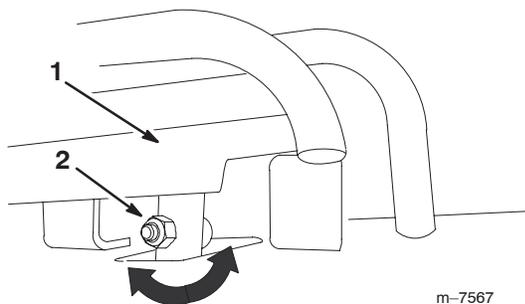

Figure 34
4. If the front of the traction control does not rest square and flush with the reference bar, loosen the flange nut and bolt in the stem of the traction control (Fig. 34).
5. Adjust the traction control so that it rest flush against the reference bar when it is pulled straight back (Fig. 34 and 35).